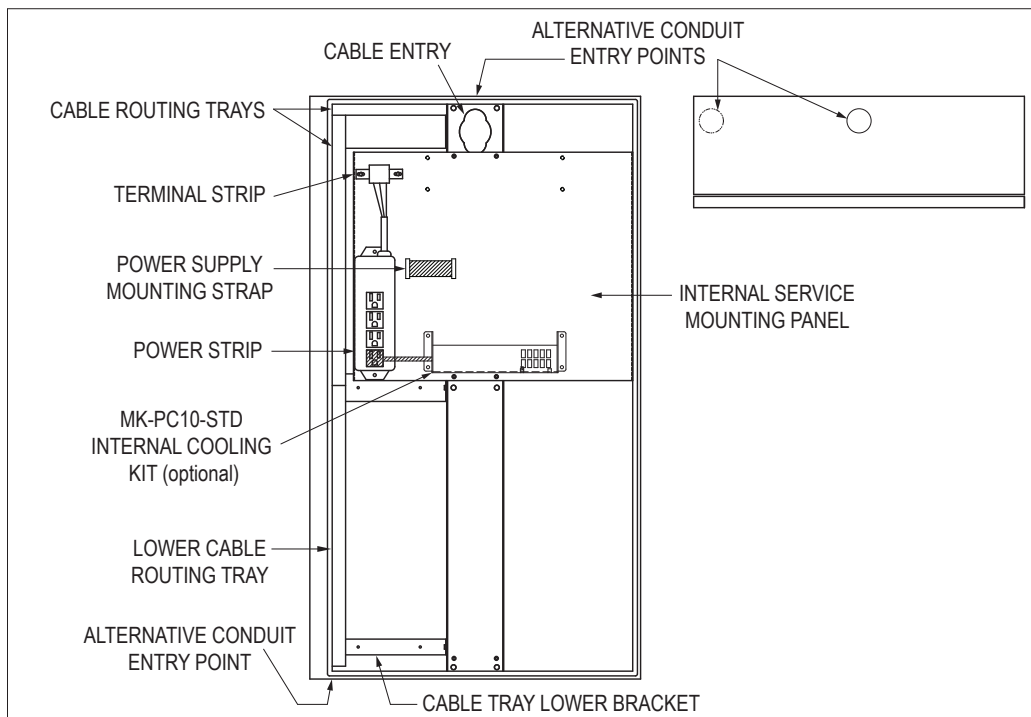

FIGURE 1 – INSIDE AND TOP VIEWS OF ENCLOSURE
1. Refer to Figure 1. A wiring entry hole is provided at the top center of the enclosure for use when pedestal or wall mounting the enclosure. If cables will not be going through the rear hole already provided, punch conduit holes as required.
**NOTE: If punching conduit holes in the enclosure, place the hole(s) so that wires can be routed through the trays provided. See Figure 1 for alternative conduit entry points on the enclosure top, bottom, and rear walls. If necessary, remove cable routing covers and trays before drilling to avoid damage and to allow room for conduit installation. In wet environments, ensure that conduit entry points are adequately sealed.**
- b. When using the optional Dell Optiplex XE2 mounting kit (part number MK-PC10-DELLXE2): Refer to Figures 1 and 4.
5. Refer to Figure 1. Install any additional equipment on the internal service panel. The panel can be removed for drilling as required.
**NOTE:** If you ordered the optional MK-PC10-STD internal cooling kit, install it on the service panel now, as shown in Figure 1. This cooling kit may be low-mounted, as shown in Figure 1, or high-mounted on the top mounting pattern on the service panel. Hook up power to the internal cooling kit by plugging the kit's AC cable into an outlet on the power strip. For non-North American power strips, connect power using the alternative cable that shipped with your internal cooling kit. Connect the cable to the kit, then connect the pigtail end to the AC input terminal blocks.
6. Refer to Figure 1. Remove cable routing tray covers and route the power cable to the power strip terminal block on the internal service panel. Route all signal cables (video, keyboard/mouse, serial, network, etc.) and AC power cables as required. For good internal air flow, all cables should be routed neatly through the trays.